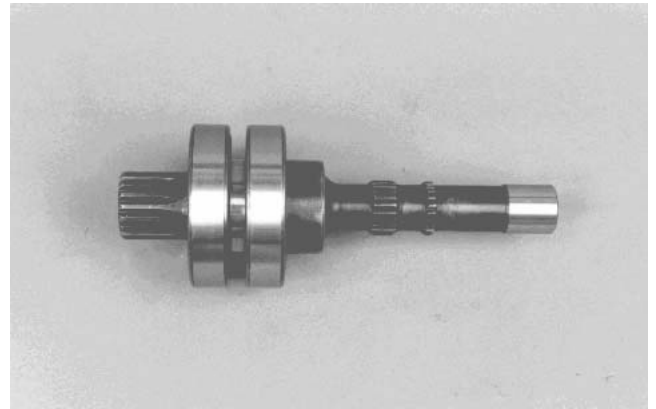

Figure 61
9. Press inner bearing, spacer and outer bearing onto motor shaft (Fig. 61).